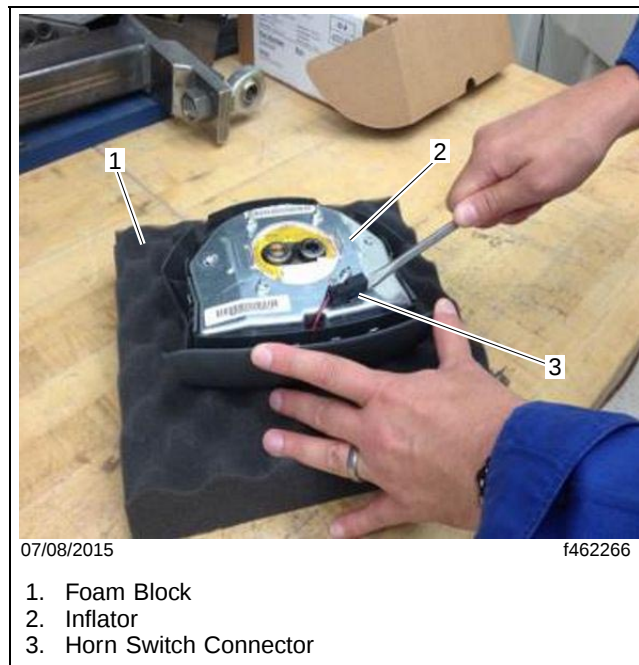

Fig. 3, Unclipping the Horn Switch Connector
10. Using a flat head screwdriver, unclip the horn switch connector from the inflator assembly. See **Fig. 3**.